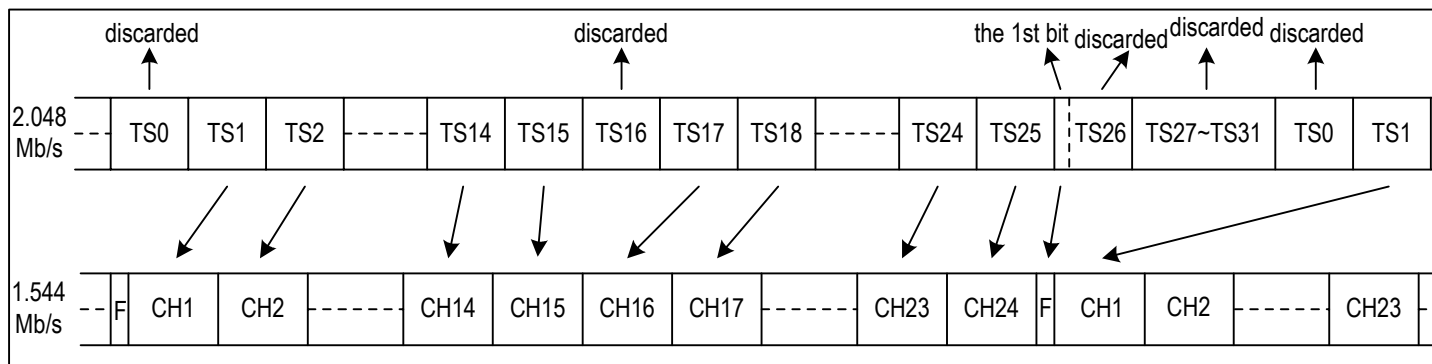

Figure 24. E1 To T1/J1 Format Mapping - G.802 Mode
1. T1/J1 Mode E1 Rate per G.802 (refer to Figure 24): TS1 to TS15 of Frame N on the system side are converted into Channel 1 to Channel 15 of Frame N to the device; TS17 to TS25 of Frame N on the system side are converted into Channel 16 to Channel 24 of Frame N to the device. The first bit of TS26 of Frame (N-1) on the system side is converted into the F-bit of Frame N to the device. TS0, TS16, TS27~TS31 and the other 7 bits in TS26 on the system side are all discarded.